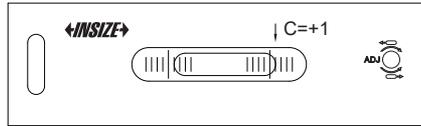

Fig.7
- b) After the bubble stops moving, read C on the scale (Fig.7).